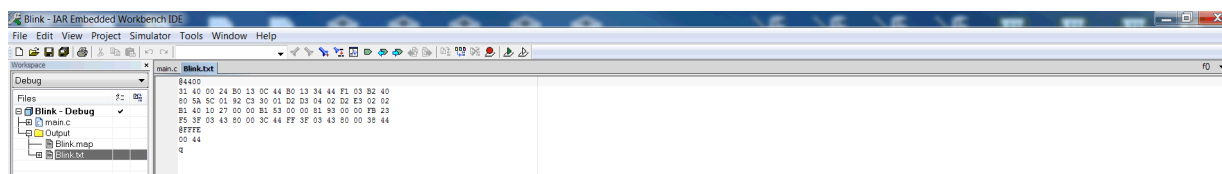

Figure 8. IAR – Output File
3. **Build** or **make** the project. The **Blink.txt** or **Blink.hex** file (see Figure 8) is generated in the **Output** folder.